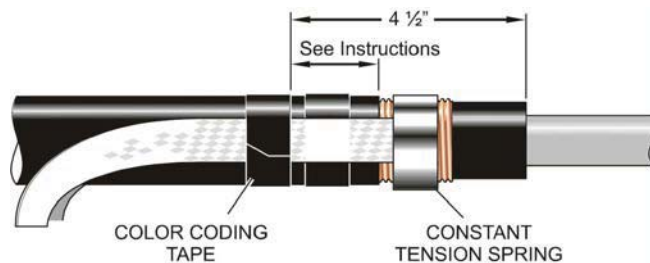

FIGURE 3
STEP 14: WRAP A PIECE OF COLOR CODING TAPE AROUND THE CABLE AND OVER THE TWO TAILS OF THE GROUND BRAID EXACTLY 4-1/2" FROM THE END OF THE SEMI-CONDUCTIVE SHIELD. THIS WOULD ALSO MEAN THE TAPE IS 2" FROM THE END OF THE JACKET ON 1/0 CABLES AND 1-1/2" FROM THE END OF THE JACKET FOR ALL OTHER CABLE SIZES. SEE **FIGURE 3**.